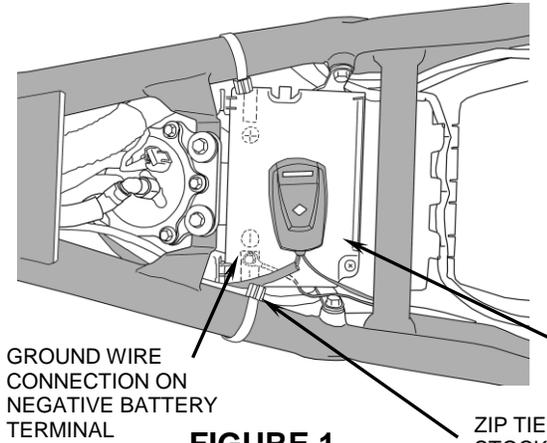

FIGURE 1
1. Remove the (3) M6 bolts securing the main seat and remove seat. Remove the left side cover to allow access for the Fi2000 harness routing.
3. Place the Fi2000 in the under seat area and route the harness forward under the front seat mount, see Figure 1. Route up the center frame tube toward injectors.
8. Remove the owner's manual and Phillips screw attaching cover over battery. Remove cover to access battery terminals. Attach the black ground cable to the **NEGATIVE** post of the battery. See Figure 1. Reinstall battery box cover and Phillips screw. Install supplied zip tie to harness in location shown.
9. Velcro the Fi2000 box on top of the battery cover and verify your connections. Remove the door from the Fi2000 box to expose the LED lights and pot settings. Verify the wire connections by (1) turning on the ignition while watching the 3 LEDs, confirm that all 3 LEDs light up and remain on. If you don't see lights, make sure the sidestand is up, bike is in neutral, clutch is in and handlebar engine switch is set to run. If you still have no lights, re-check that all connectors are fully engaged and the ground wire is connected correctly. (2) After achieving a steady light from all three LED's, start the motorcycle; the green light should now be the only LED on. If all three LED's are still on after start up, verify you have attached the injector connectors correctly. Reattach the access door when finished. **Note:** Make sure the ignition is turned off before changing any connection.